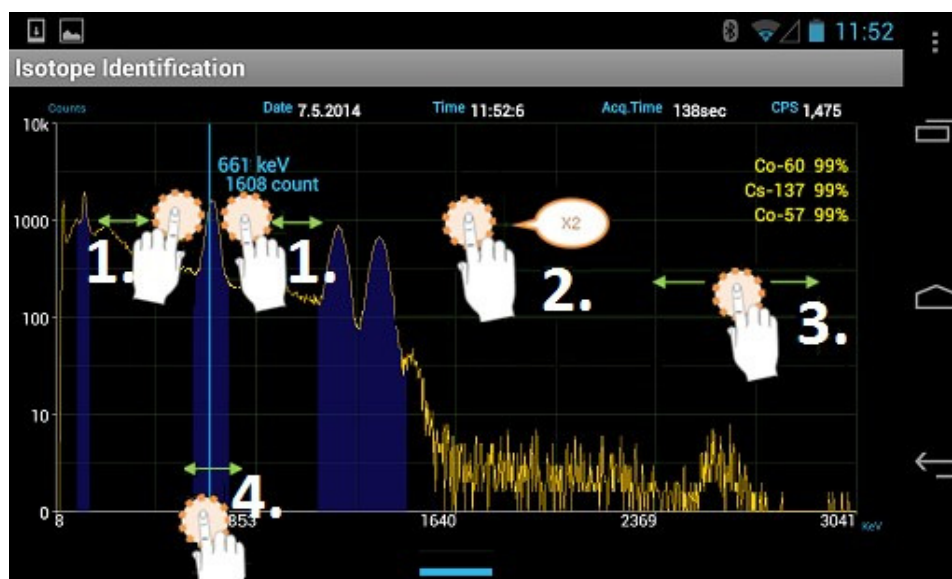

Figure 4.5. Spectrum manipulation features
You can manipulate the spectral display by touching areas of the screen (Figure 4.5).
3. Rotate the smartphone 90° to use the spectrum analysis tools (Figure 4.5).